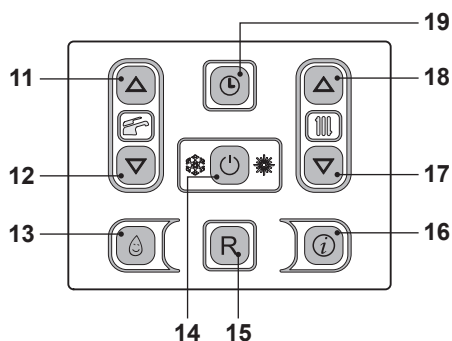
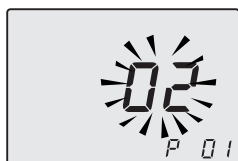
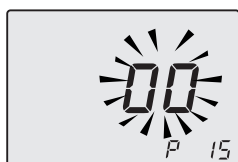

Fig. 7.17
Fig. 7.18
Fig. 7.19
- Enter in "programming mode" by pressing keys 14 - 17 - 18 (Fig. 7.17) for 10 seconds at the same time until the letters **P01** are displayed on the LCD display, indicating that "parameter 01, has been activated (Fig. 7.18).
- Scroll the various parameters using keys 17 or 18 until the letters **P15** are displayed on the LCD display, indicating that "parameter 15" (Fig. 7.19) has been activated.
- By pressing key 14 (Fig. 7.17) confirmation of the inserted value is obtained.
- Press keys 17 or 18 (Fig. 7.17) to exit without changing the value (Fig. 7.19)
However, if the ambient temperature is not comfortable, the flow temperature of the heating plant can be increased or reduced by $\pm 15^{\circ}\text{C}$ by acting on keys 17 (reduce) and 18 (increase) (Fig. 7.17).